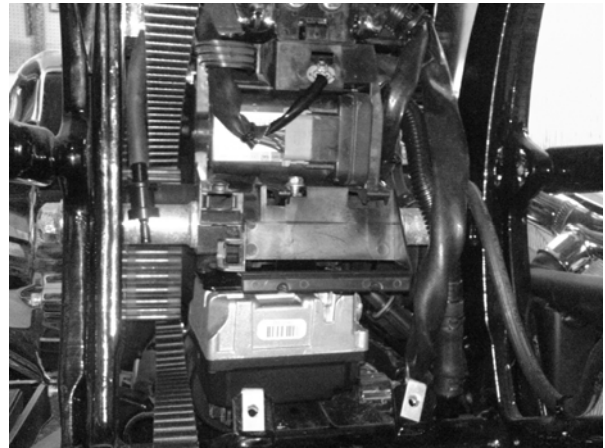

Figure 3. Cruise Control Module Installed
4. See Figure 3. Remove electrical bracket (you will reposition this later). Position cruise control module bracket on motorcycle such that the top mounting slot fits over the threaded hole for the bottom screw of the electrical bracket. The lower two cruise control module bracket bolt holes will line up with the threaded holes in the transmission casting. Apply liquid thread lock to provided 1/4" bolts and insert through cruise control bracket and tighten into transmission, being
5. Secure CCWH to main circuit breaker wire harness using supplied cable ties. See Figure 3 – CCWH is visible to right of cruise control module.